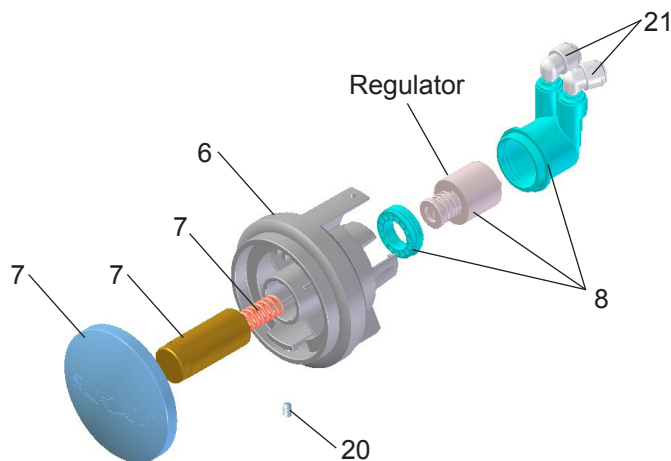

Figure 9 - Push Button Assembly
14. **Check stream height from bubbler.** Stream height is factory set for 35 PSI supply. If supply pressure varies greatly from this, remove push button (Item 7 - Fig. 9) and adjust the screw on the regulator (Item 8 - Fig. 9). To remove push button, remove setscrew from bottom of sleeve (Item 6). Insert a small punch in screw hole and push up while grasping the push button and pull forward removing the push button. Clock wise adjustment will raise stream height and counterclockwise movement will lower stream height. For best adjustment stream should hit basin approximately 6-1/2" from the bubbler. Reassemble the push button by pushing in on button until the push button catches in the sleeve. Reinstall the setscrew (Item 20) in the sleeve (Item 6).